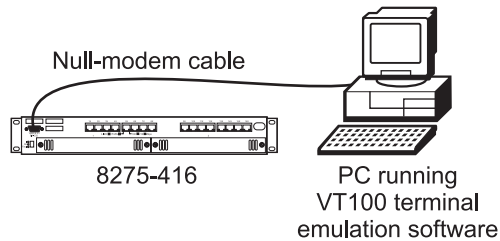

Figure 7. Out-of-band connectivity - locally attached terminal
1. Attach one end of a null-modem cable to the EIA 232 port of the switch as shown in Figure 7 on page 16, and the other end to the COM port of your PC (see “Appendix C. Cable Pinout Diagrams” on page 99).